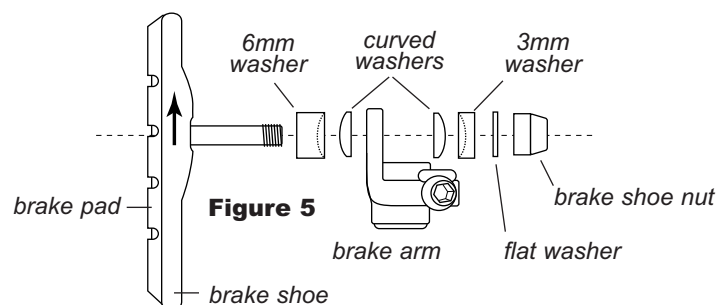

Figure 5
9. If the distance is less than 39 mm, reverse the position of the 3mm and 6mm brake shoe washers (see figure 5).